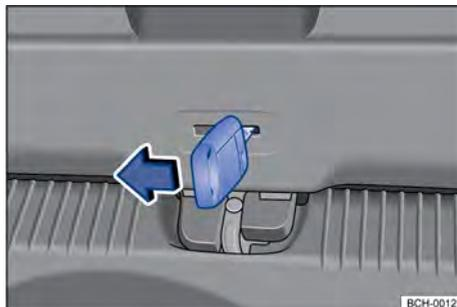

Fig. 58 In the luggage compartment: unlock the boot lid.
- Insert the key blade into the opening in the boot lid → Fig. 58 and move the release lever in the direction indicated by the arrow.